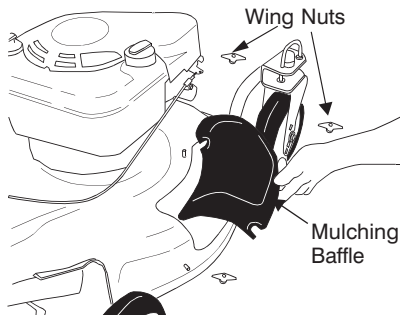
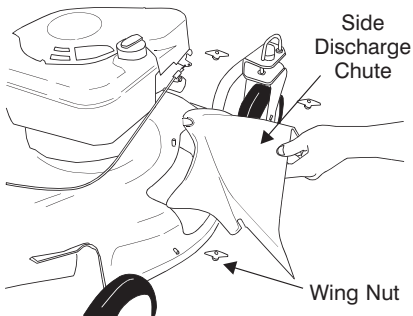

Figure 10
Figure 14
1. Remove wing nuts holding mulching baffle (see Figure 10) or side discharge chute (see Figure 14) in place. Then remove baffle or discharge chute.
1. Remove mulching baffle or grass bag adapter. See Figure 10.
2. Attach discharge chute with wing nuts. See Figure 14.